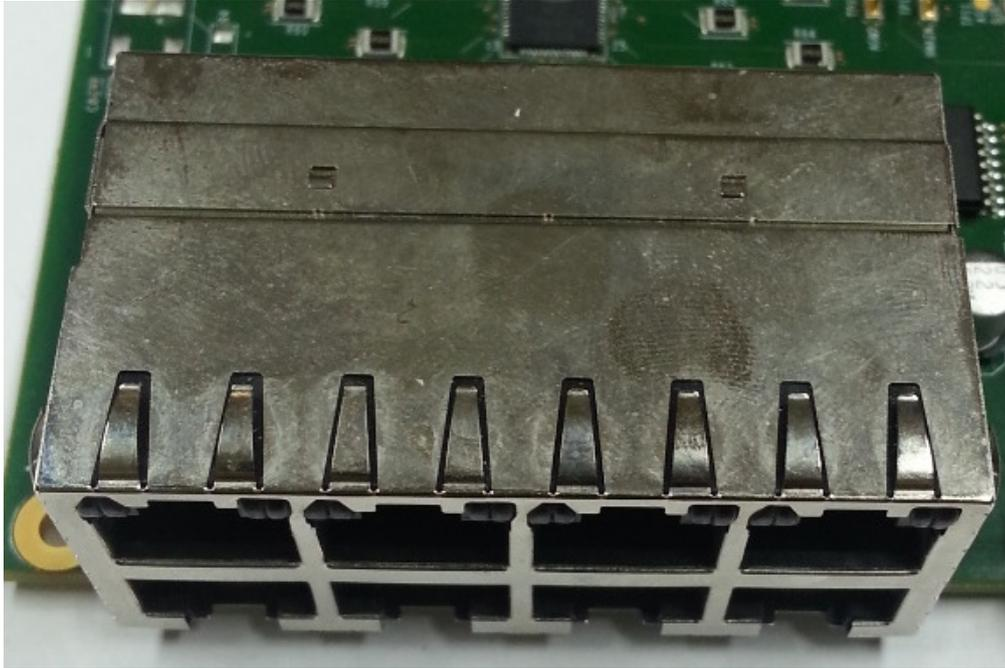

Figure 5: RJ45 Connectors
1. RJ45 Connector (see Figure 5)